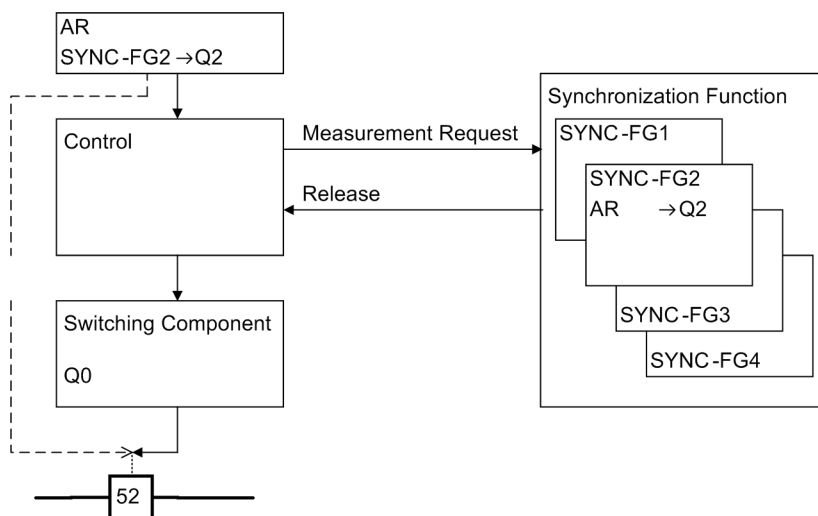

Figure 2-119 Connection of the automatic reclosing function to the synchronization function
The automatic reclosing (AR) function can also interact with the synchronizing function. They are linked via the device control. The selection is made via parameter setting of the automatic reclosing function. The AR parameters (7138 **Internal SYNC**) determine which SYNC function group (SYNC FG) is used. The applicable switch is defined in the selected function group. The switchgear component indicated in the AR parameters (7137 **Cmd.via control**) and the selected SYNC function group should be identical. If their settings differ, the SYNC function group setting will overwrite that of the AR function. If no SYNC function group is entered in the AR parameter, the close command of the auto reclose function is carried out in unsynchronized form via the switchgear component indicated in the AR parameters. Equally, the close command „79 Close“ (message 2851) allows only unsynchronized switching. If e.g. circuit breaker Q0 is configured as component to be switched synchronized, a CLOSE command of the AR function will address this breaker and assign it a CLOSE command which will be processed by the control. As this breaker requires synchronization, the control launches the synchronizing function and awaits release. If the configured conditions are fulfilled, the release is granted and the control issues the CLOSE command (see Figure 2-119).